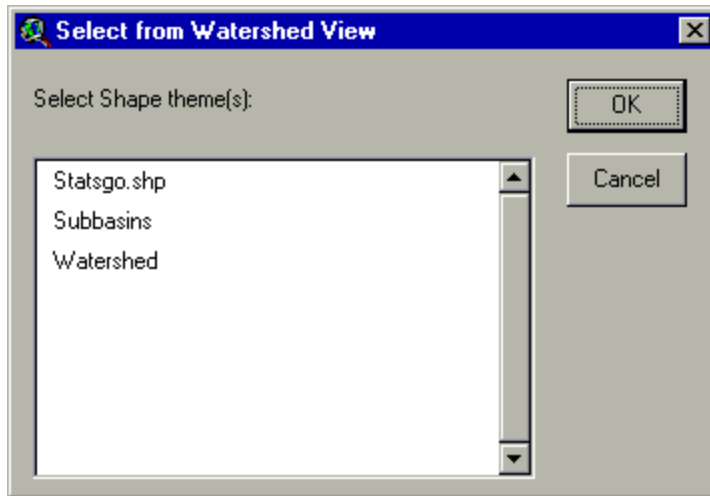

Figure 6.5
- i. If loading from the *Watershed View*, a dialog is displayed (Figure 6.5) showing the list of shape themes.